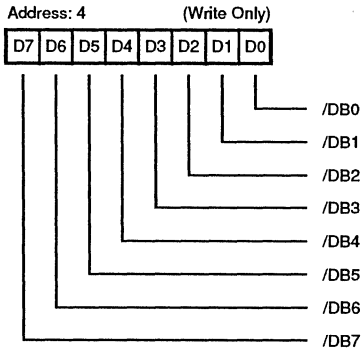

Figure 25. Select Enable Register
**Select Enable Register. Address 4(Write Only).** The Select Enable Register (Figure 25) is a write-only register which is used as a mask to monitor a signal ID during a selection attempt. The simultaneous occurrence of the correct ID bit, /BSY FALSE, and /SEL TRUE will cause an interrupt. This interrupt can be disabled by resetting all bits in this register. If the ENABLE PARITY CHECKING bit (Mode Register, bit 5) is active (1), parity is checked during selection.